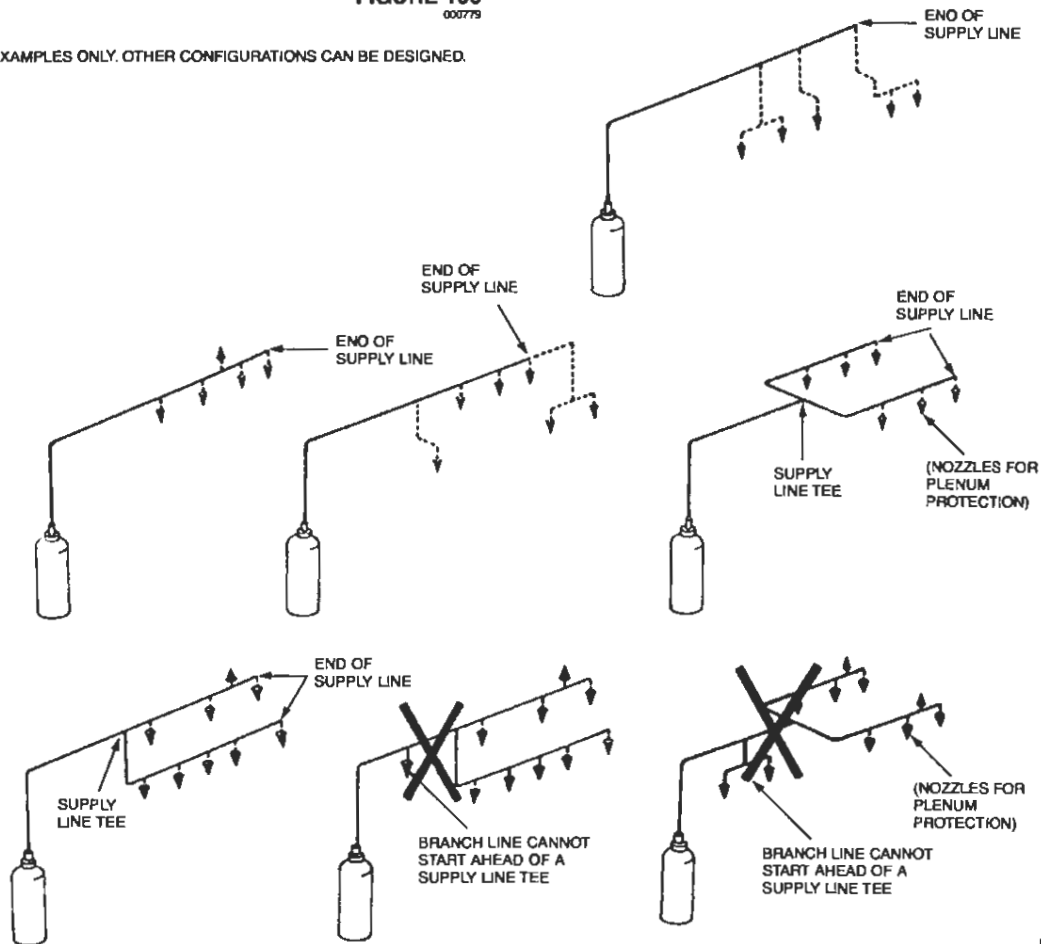

FIGURE 107
▶ See Figures 107 and 108.
The Appliance Branch Line is defined as the length of pipe which runs from the supply line to the appliance nozzle(s). This includes all branch line fittings as well as the tee or elbow used to start the branch line. ▶ See Figures 107 and 110.